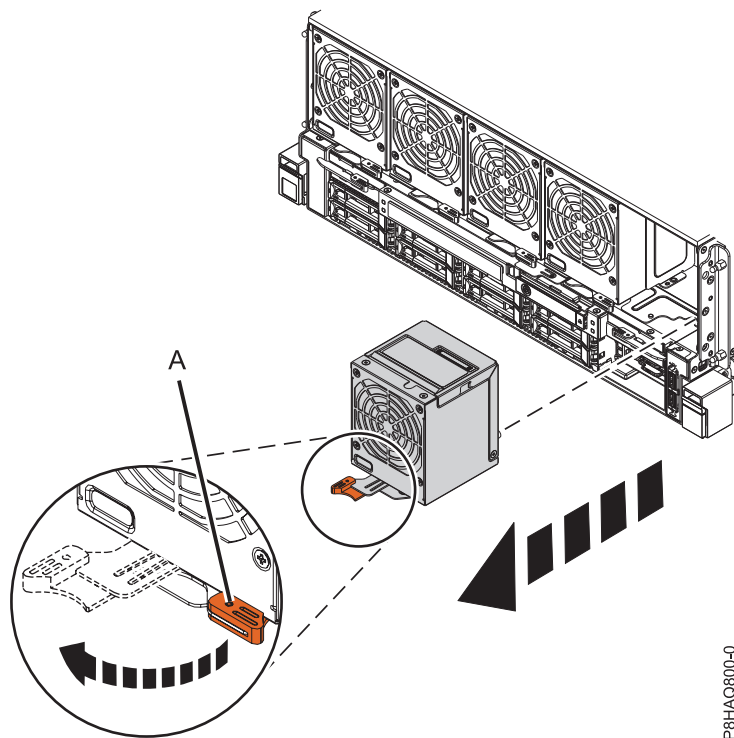

Figure 4. Removing the front fan
- a. Rotate the fan handle (A) in the direction that is shown in Figure 4 on page 7 to unlock the fan from its slot.